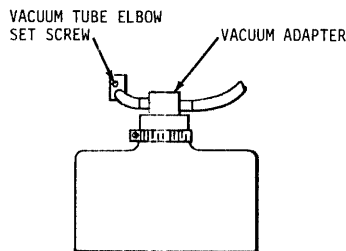

Figure 6-13. Removal of Vacuum Tube Adapter
- e. Using a .050 Allen screwdriver, loosen the set screw in the vacuum tube adapter elbow located on the underside of the mainframe, figure 6-13. Remove the elbow from the sleeve. Prop open the hopper using about 1" of cards inserted at a right angle.